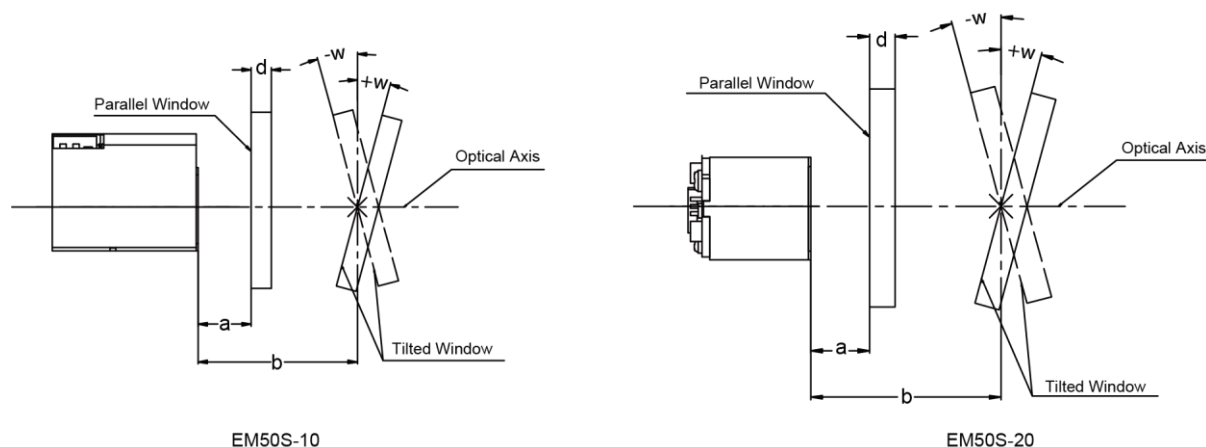

Figure 2-7
- **Parallel window** – Primary option for imager engines. The following window distance requirements should be satisfied: The maximum distance is measured from the front of the engine housing to the furthest surface of the window. In order to reach better reading performance, the distance from the front of the engine housing to the nearest surface of the window should not exceed a ($a=1\text{mm}$) and the distance from the front of the engine housing to the furthest surface of the window should not exceed $a+d$ ($a=1\text{mm}$, $d=2\text{mm}$), as shown in **Figure 2-7**.